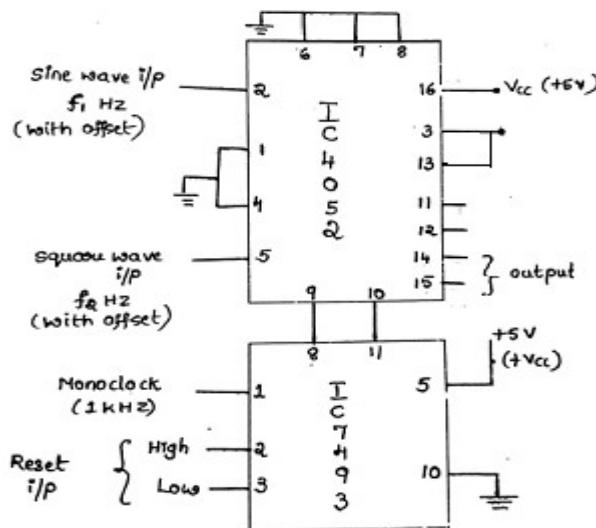

Fig. 2: TDM demultiplexing
- Rig up the circuit as shown in the fig 2.